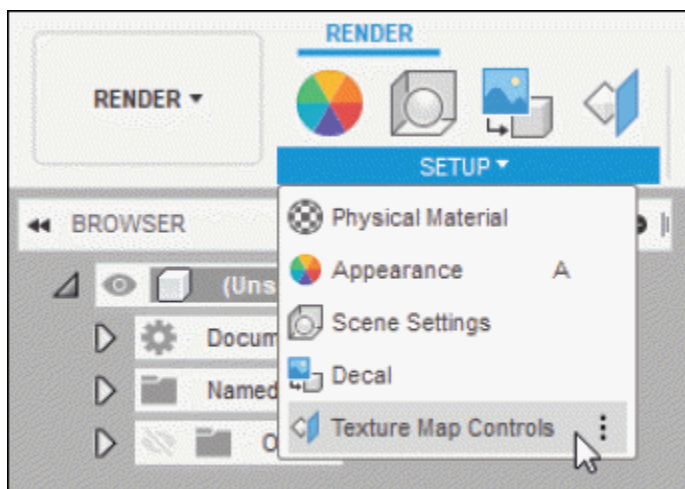
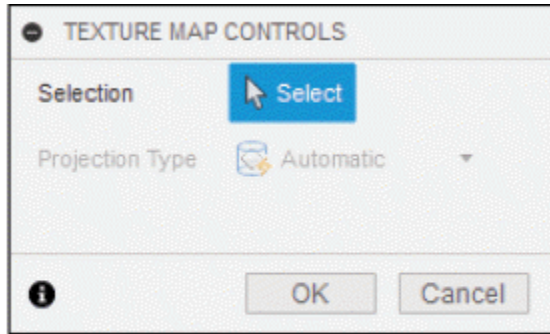

Figure-8. Texture Map Controls tool
Figure-9. TEXTURE MAP CONTROLS dialog box
- Click on the **Texture Map Controls** tool of **SETUP** panel from **Toolbar**; refer to Figure-8. The **TEXTURE MAP CONTROLS** dialog box will be displayed; refer to Figure-9.